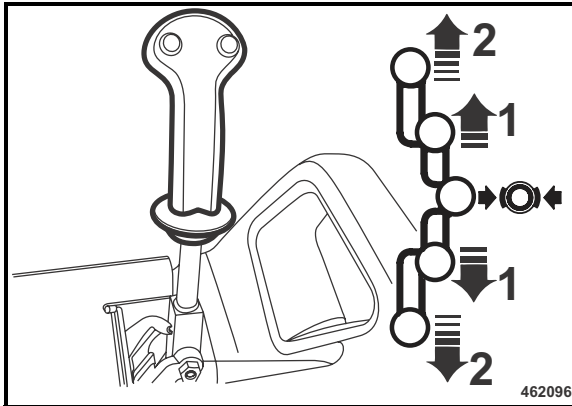

Fig. 153
- Move the travel lever (Fig. 153) forward, backwards and to braking position. Thereby check for function, light movement, clearance and damage.